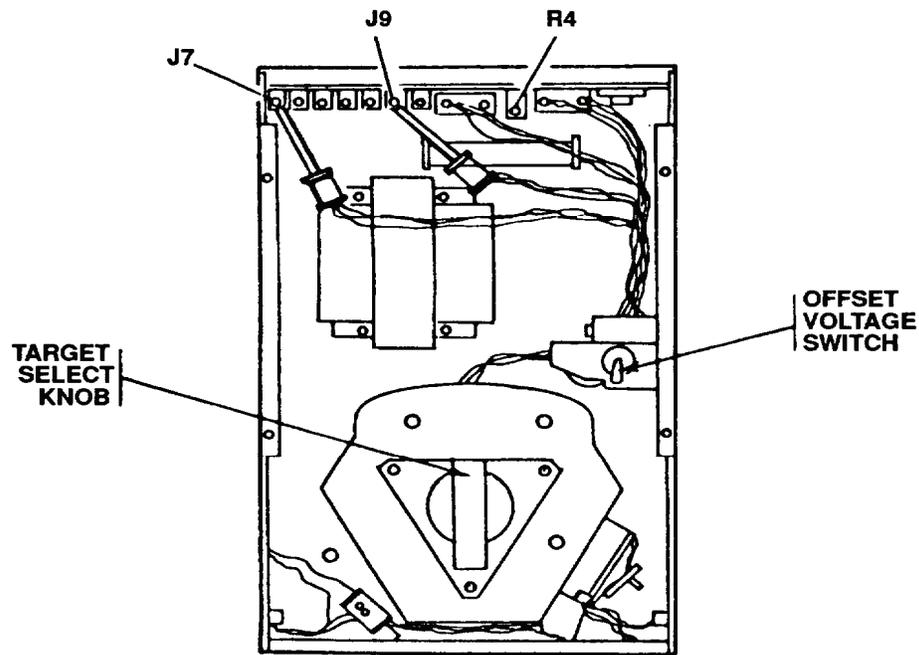

Figure 1. Temperature controller locations.
- b. Set target select knob (fig. 1) to **BAR** position
- o. Place offset voltage pin adapters on pin J7 (black) and J9 (red) (fig. 1). Connect leads to proper pin adapter (black to black, red to red).
- s. Set offset voltage (toggle) switch to **ALIGN** (fig. 1).
If this is the initial calibration, adjust temperature controller potentiometer R4 (fig. 1) for an indication of  $4.30 \pm 0.05$  V dc on multimeter no. 2.
- u. If necessary, adjust temperature controller potentiometer R4 (fig. 1) for multimeter no. 2 indication equal to previous offset voltage listed on TI offset voltage label (located on temperature controller)  $\pm 0.05$  V dc. Record indication as  $V_o$ .
- (1) Open access hatch on shroud and remove cover plate from TI temperature controller.
- (2) Set offset voltage switch to **ALIGN**.
- (3) Adjust offset voltage potentiometer R4 (fig. 1) for an indication change of 0.1 V dc on multimeter no. 2.